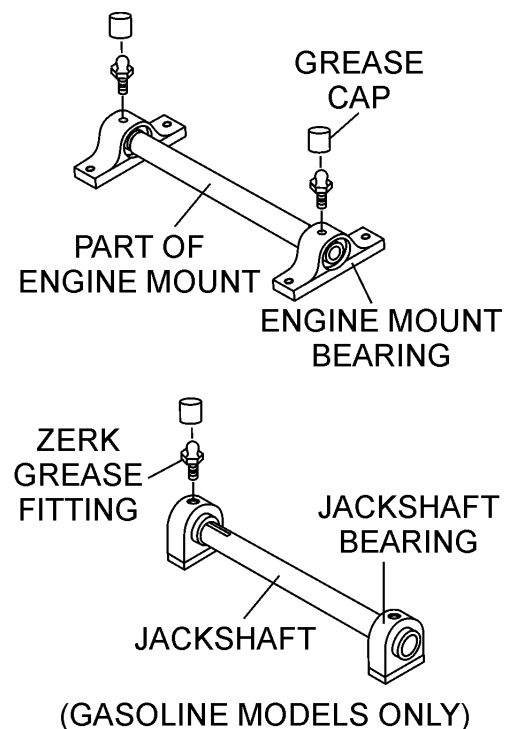

Figure 27. Zerk Fittings (Lubrication)
There are two (2) grease points (Figure 27) for the Trak 20 (Electric Motors) and four (4) grease points for the Trak 20 (Gasoline Engine). Use only Premium Lithium 12 based Grease, conforming to NLG1 Grade #1 consistency. Grease *daily*.